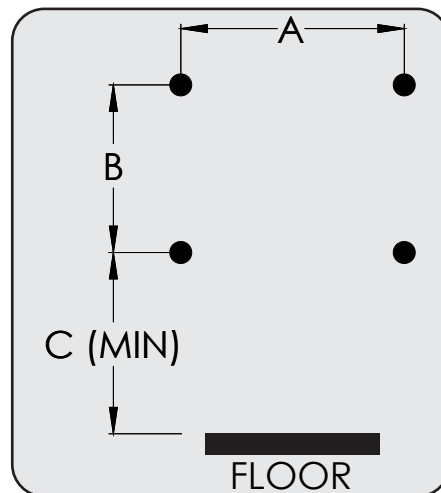

Figure 2
3. Use Figure 2 and Table 2 below for hole spacing and minimum floor clearance spacing for each heater.